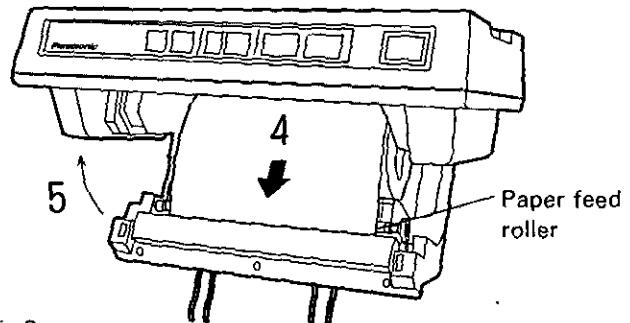

Fig.2
4. In case paper cannot go through, just put the paper on the paper feed roller as shown Fig. 2.